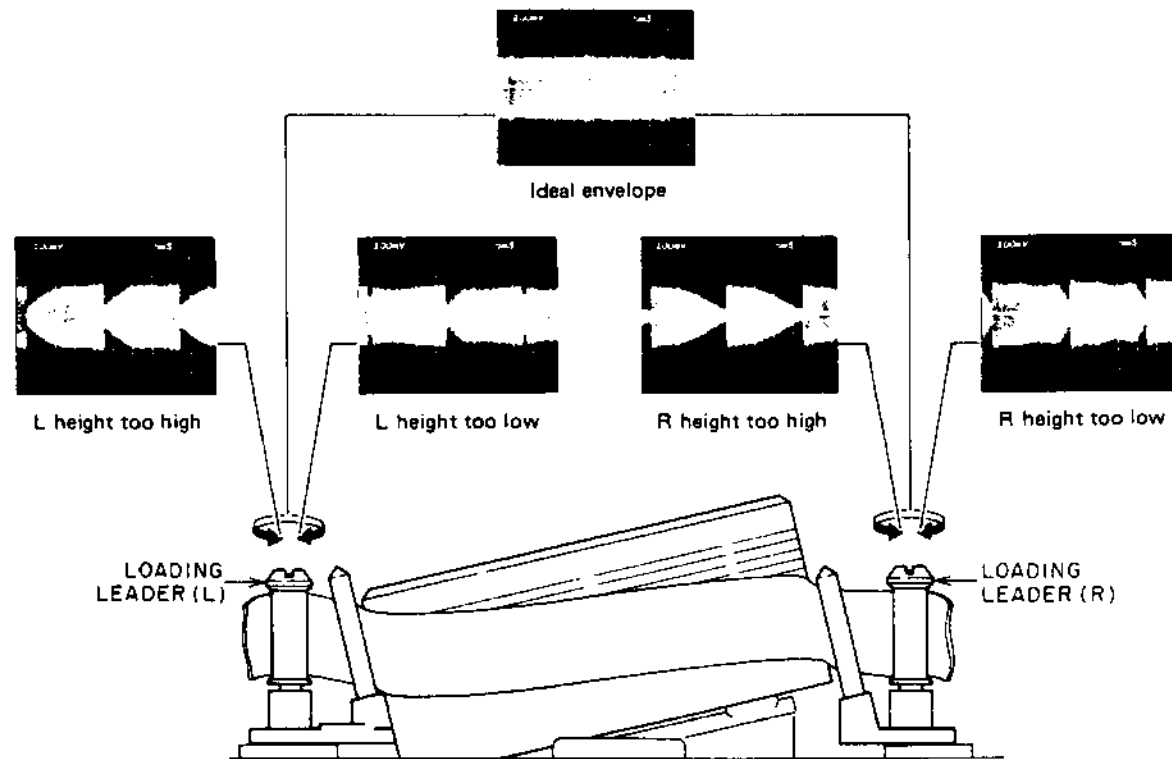

Fig. 5-10
- 4) Turn the LOADING LEADER heads with a flat head (—) screw driver to obtain flat RF envelope as ideal envelope as shown in Fig.5-10.